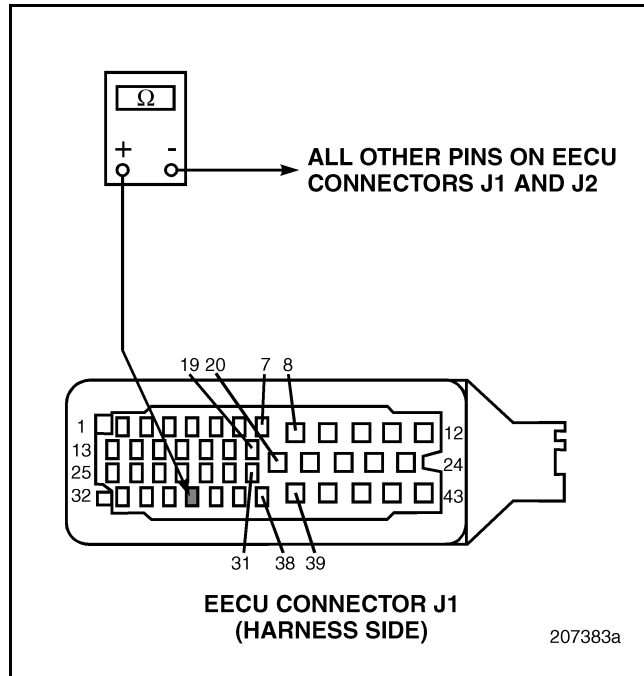

Figure 175
4. Check for continuity between EECU harness connector J1 pin 35 (ground line) and all other pins in EECU harness connectors J1 and J2 (see Figure 175).